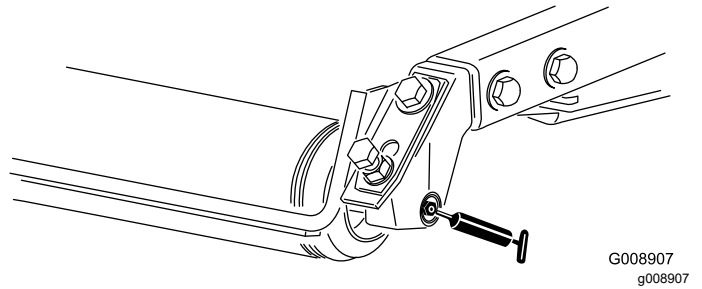

Figure 48
- Rear-roller bearings (2 per cutting unit)—Figure 48